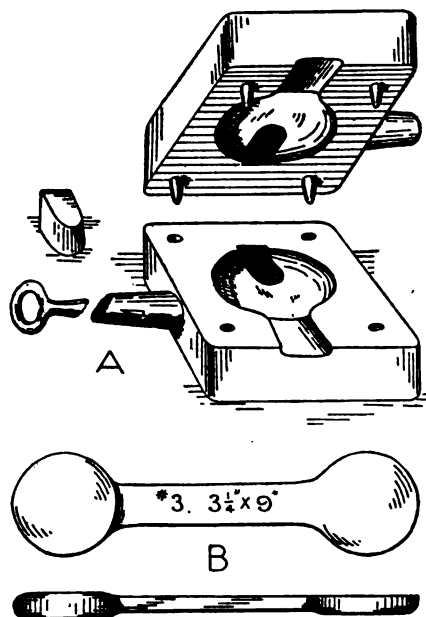
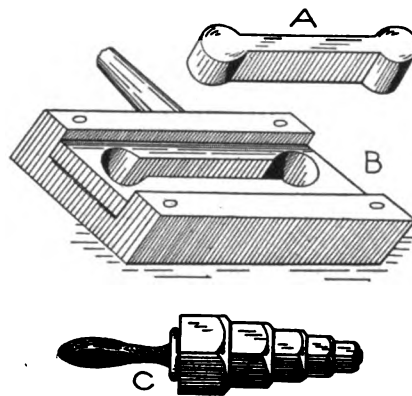

Fig. 47. FORMER AND BLANK FOR WRENCH FORGING.
Fig. 49. A, B.—CONVENIENT FORM OF DIE AND PUNCH. C.—A NEAT ARRANGEMENT FOR GROUPING NUTS.
The supply of wrenches for locomotive and general use, makes frequent demand upon the railroad blacksmith. With the proper tools and a little system, as outlined in the last article, we know of no method superior to the ball forging for making wrenches. The necessary outfit consists of a set of ball swages, and a set of forming and punching dies of suitable proportions. A, Fig. 47, shows
the latter tool, easily and cheaply made of mild steel, the holes for punch, dowell pins and handles, being all the machine work necessary. The impression in tool is made under hammer by a correctly proportioned, smoothly finished pattern, see B, Fig. 47. The patterns for the different sizes of wrenches are preserved and used as those for other tools formerly described. Stamped upon the shank is the number of the ball swage required for the ends of wrench No. 3; also the stock required for entire wrench— $\frac{3}{4}$ x 9 inches (round). This is for $1\frac{1}{2}$ and $1\frac{1}{4}$ -inch nuts. The ball is the same used for making the ash pan lever, shown in last article. The pattern for 2 and $1\frac{1}{2}$ -inch nuts, reads (5) $4" \times 10"$. For $1\frac{1}{2}$ and 1-inch nuts, (4) $2\frac{3}{4}" \times 8"$; for $\frac{3}{4}$ and $\frac{1}{2}$ -inch nuts, $2" \times 8"$.
The smaller wrenches for $\frac{1}{2}$ and $\frac{3}{4}$ -inch nuts can be stamped more advantageously out of $\frac{3}{8}$ or $\frac{1}{2}$ -inch boiler plate, in a tool similar to B, Fig. 49. The cutting surface of this tool is a cast steel plate riveted into the grooved iron block. An additional guide plate for top, with dowell pins, being required to guide punch A. A $\frac{3}{4}$ -inch rod screwed into side of block serves as a handle. The ends of these small wrenches can be finished in one heat, in small tools similar to B, Fig. 47; but more conveniently adjusted in spring swage fashion.
Grouping the nuts with sizes marked upon a handle as shown at C, Fig. 49, is a neat and convenient arrangement, facilitating the work of finishing the wrenches.